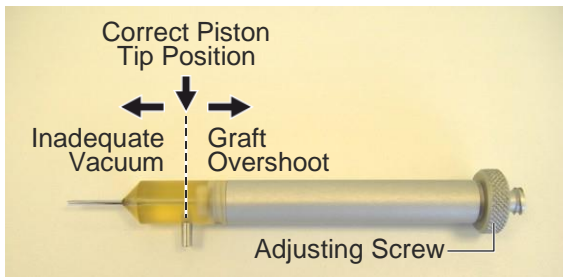

Figure 3-81. Correct Positioning of the Piston within the Implanter Head
2. Verify that the tip of the piston is aligned with the implanter head's suction port, as shown in Figure 3-81.
5. Use the adjusting screw of the handpiece to set the implanter head's piston tip at the correct position, as shown in Figure 3-81.
During this stage, it is important to have the implanter head's piston tip at the correct position, i.e. aligned with the implanter head's suction port, as shown in Figure 3-81. At this position, the graft can be sucked up and then pushed towards the recipient site.